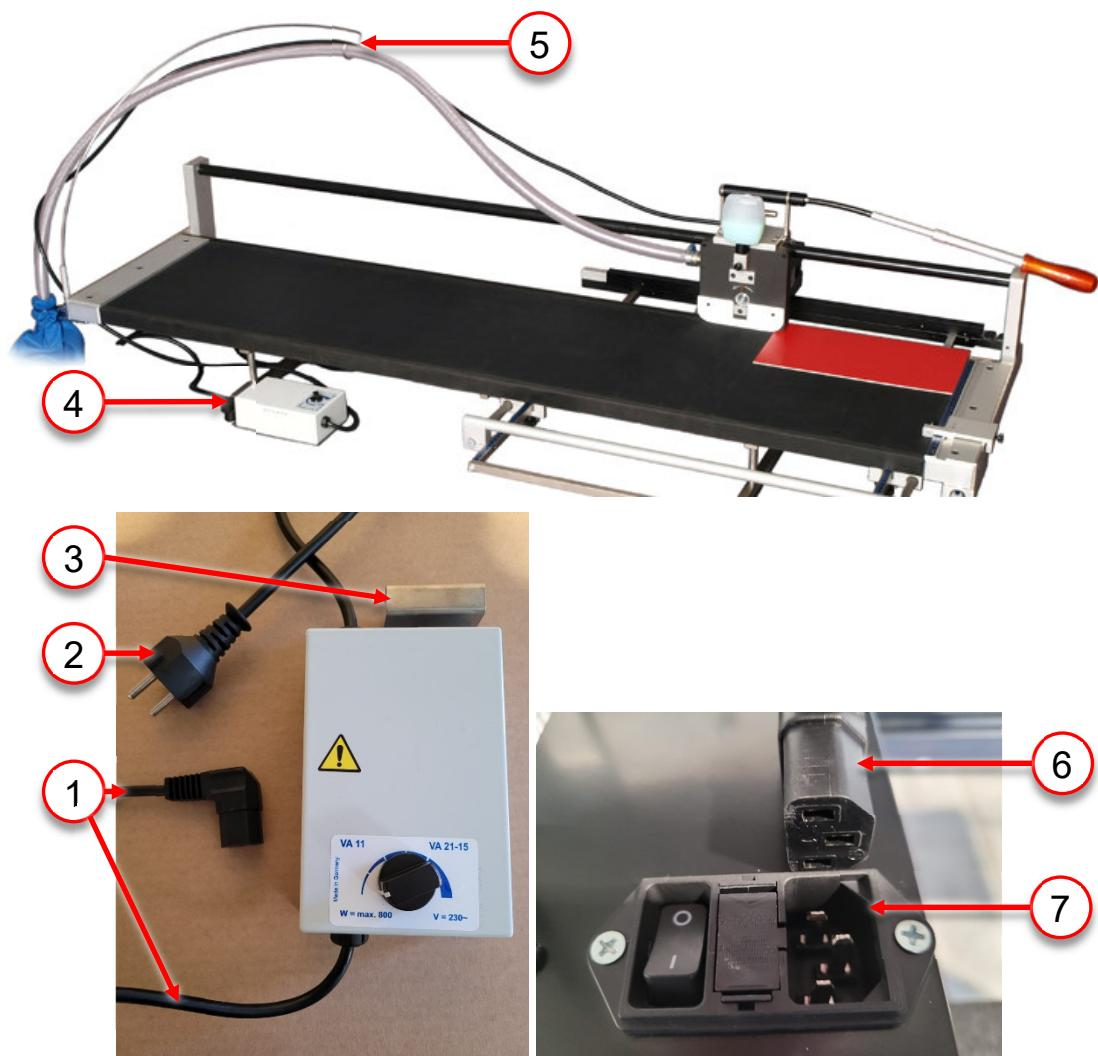

Figure 4 Installation
2. Hook the speed controller onto the base of the precision circular table saw (4, Figure 4) using the bracket (3, Figure 4).
3. Lay the connection cable of the speed controller (1, Figure 4) around the precision circular table saw and hook it into the cable retaining spring (5, Figure 4).
4. Insert the connection plug of the speed controller (6, Figure 4) into the connection socket (7, Figure 4) on the motor housing of the precision circular table saw.
5. Plug the mains plug of the speed controller (2, Figure 4) into a power socket.